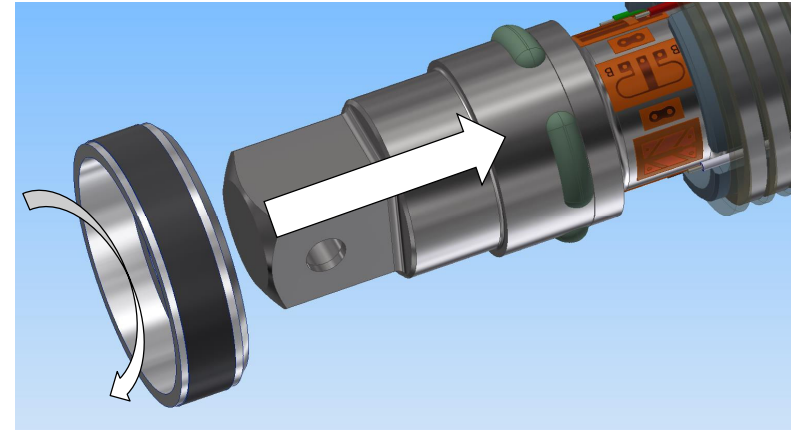

Figure 3
- 5) Install the ENCODER DRUM back onto the SENSOR SHAFT and slide into the RTV Bead while rotating approximately 90° up to the scribed line. Reference Figure 3